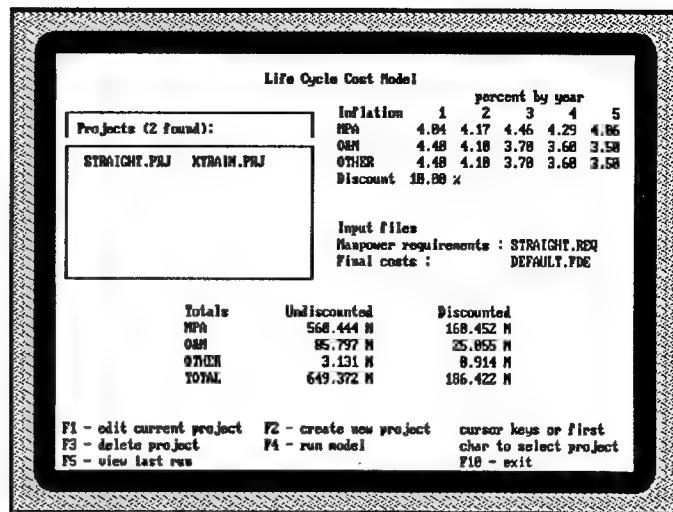

Figure 19.
**Operation:** In this menu option, AFMCOS displays a list of projects in the upper left window. The remainder of the screen displays information associated with the currently highlighted project. The bottom of the screen displays the totals from the most recently calculated project. (Figure 19.)